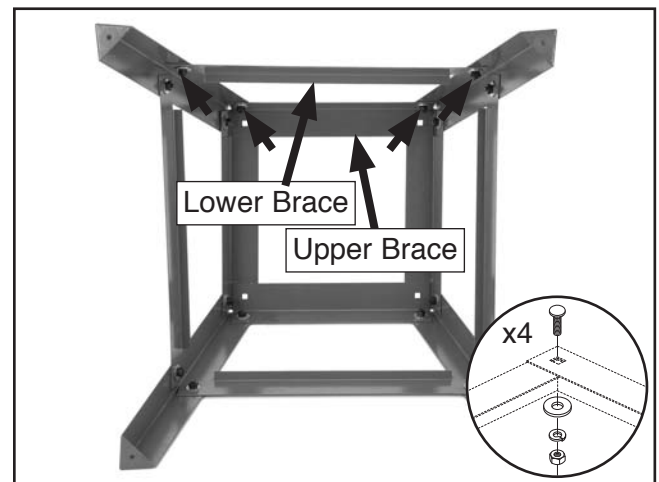

Figure 11. Completing stand.
4. Carefully turn the assembly over and attach the remaining upper and lower braces. Again, use four M8-1.25 x 16 carriage bolts, four 10mm flat washers, four 8mm lock washers, and four M8-1.25 hex nuts, as shown in **Figure 11**. Do not yet fully tighten the nuts.